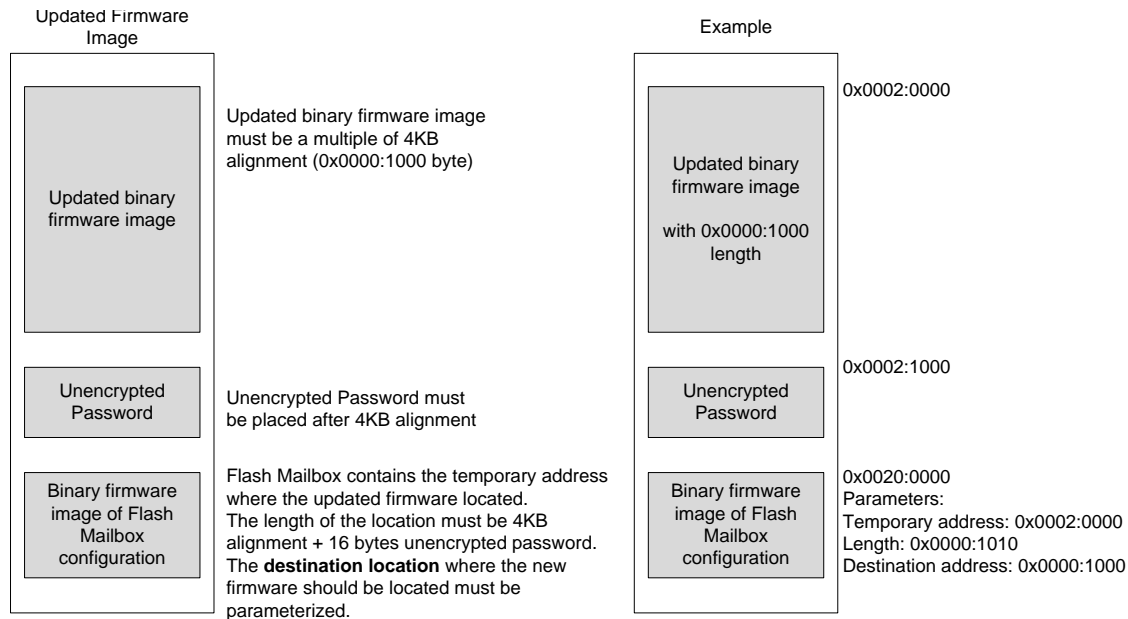

Figure 13. Updated Firmware Image for Updating in JTAG/SWD Lock Condition
- Using the JTAG/SWD lock update with Flash Mailbox setting (see Figure 13)